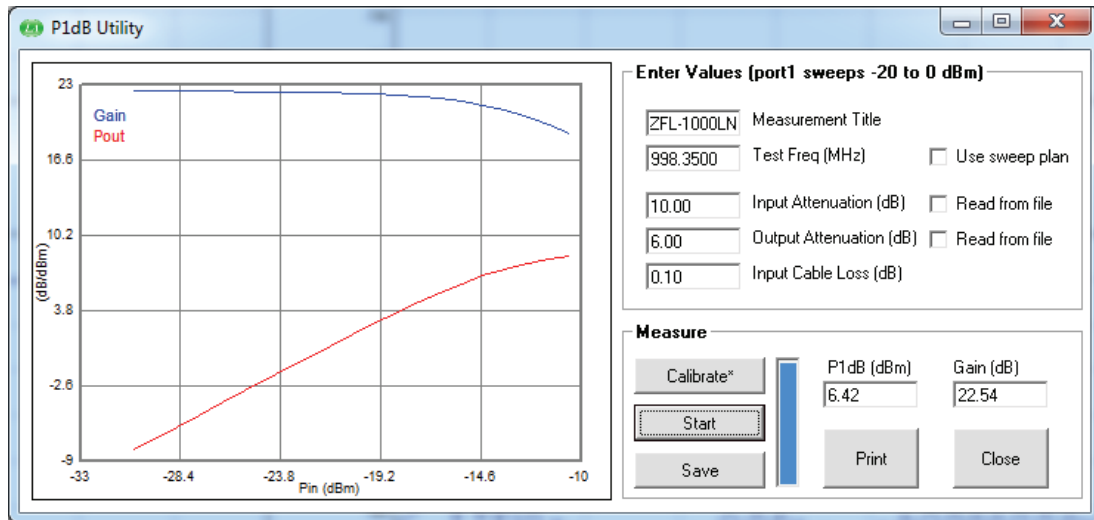

Figure 6.38 The P_{1dB} measurement utility control window
- Click on Calibrate button (connection as on left-hand side of Fig. 6.38)
- Connect DUT with attenuators as shown on right hand side of Fig. 6.38